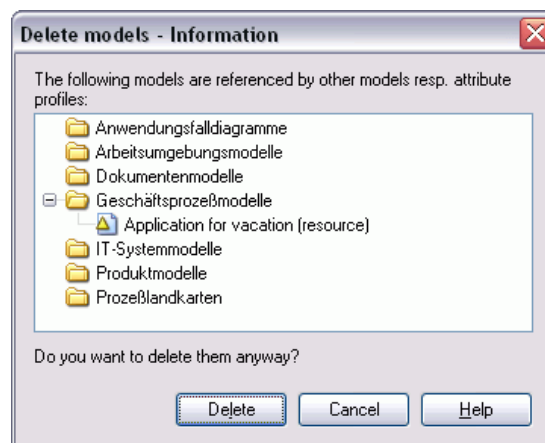

Figure 248: Delete models - referenced models
**Hint:** The models to be deleted, which are referenced by other models, will be displayed in the "Delete models - Information" window before the deletion (see fig. 248).
In the window "Delete models - Information" (see fig. 248), all models, which are referenced by other models will be displayed.